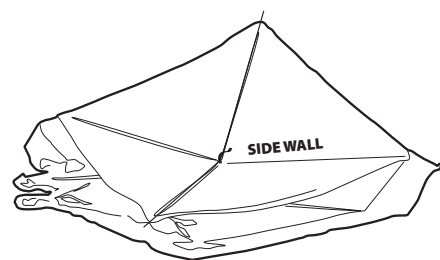

FIGURE 2
2. Lay the tent flat on the ground and check that there is no material twisted or overlapping the ends of any poles. DO NOT force shelter when folding or unfolding. Watch for the entanglement of poles. [**SEE FIGURE 2**]